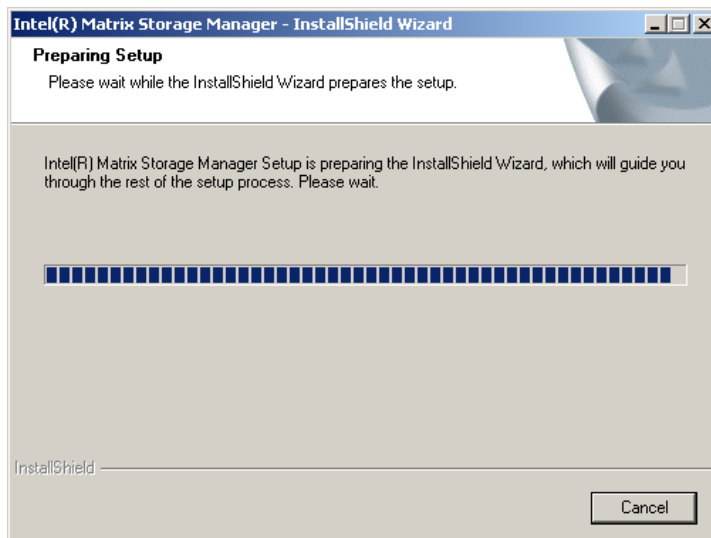

Figure 7-38: InstallShield Wizard Setup Screen
Step 5: Figure 7-38 shows the InstallShield Wizard preparing to guide the user through the rest of the process.